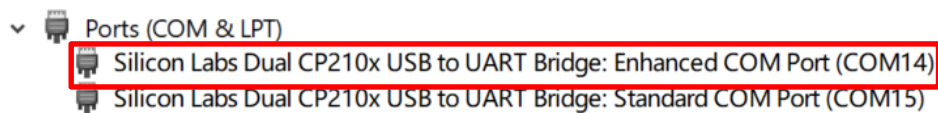

Figure 4: USB Ports
Step 6: Select the correct “COM Port” (USB Port shown in *Figure 4* above).